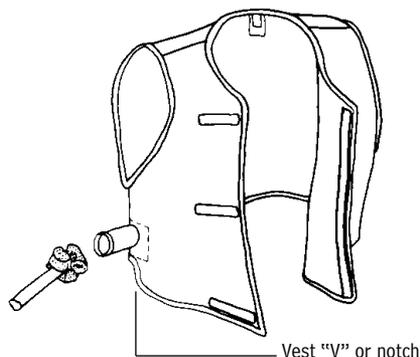

Figure 2
1. Insert the muffler end of the cooling vest connector hose well into the air entry sleeve of the vest (Figure 2).
The vest should mount over the belt with the Dual-Cool unit positioned in the "V" of the vest found on the right-hand side (Figure 2).